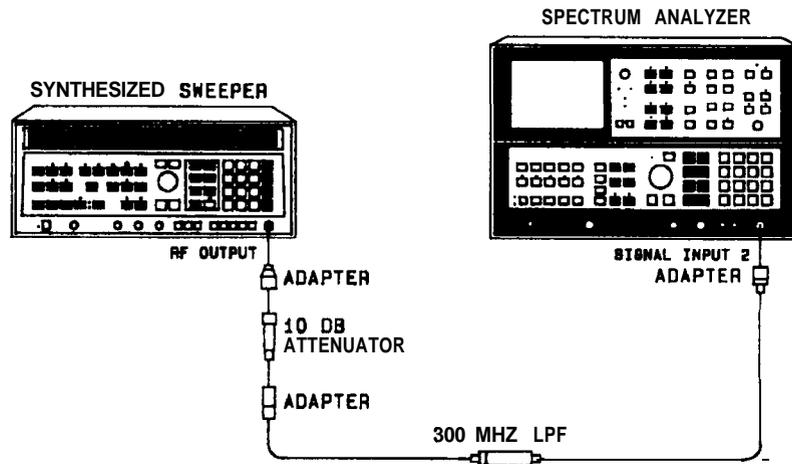

Figure 2-25. Harmonic Distortion Test Setup
Equipment listed is for two test setups, Figure 2-25 and Figure 2-26.
1. Connect equipment as shown in Figure 2-25.